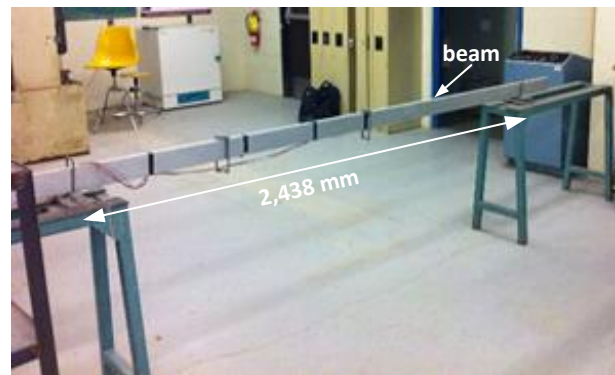

Figure 1: Aluminum beam
- An aluminium beam of 2,438-mm length with a hollow rectangular cross-section (Fig. 1);